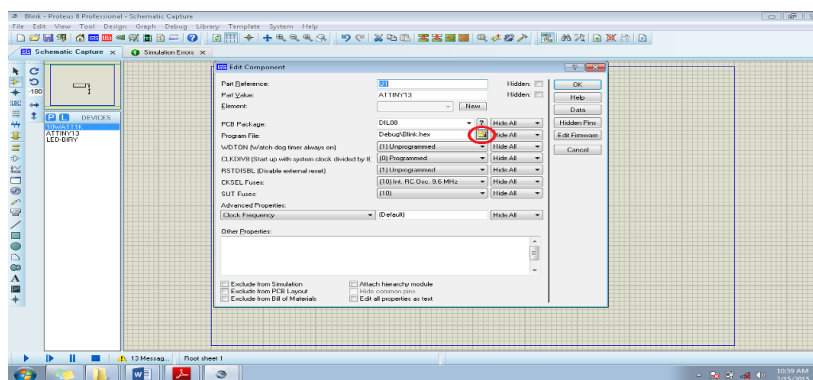

FIG 8. Specifying the hex file that will run on the microprocessor
- Right click the ATtiny13 microcontroller and select edit properties (**Figure 8**). The browse for the hex file created with Atmel studio. Note: The hex file is usually located in the debug folder or in the release folder depending on how you compiled your program.